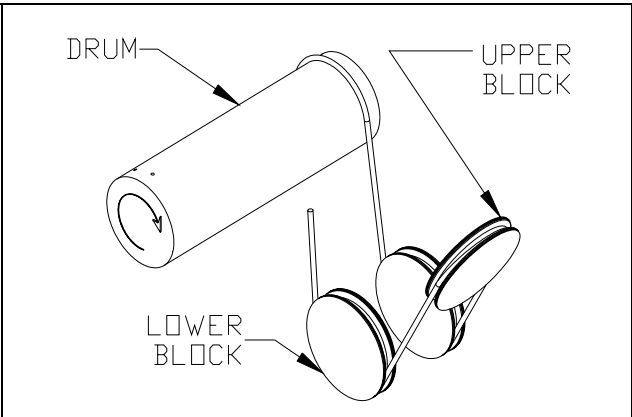

FIGURE 5-6. Reeving Diagram – 4 Part Single-Reeved. (Note: Arrow on Drum Indicates Direction of Drum when Lowering.)
- b) Before removing the old rope, refer to reeving diagram, Figure 5-6. To assist with re-reeving your hoist, refer to the reeving diagram and corresponding paragraph that describes the reeving procedure.
- (4) With outer lower block covers removed, thread the wire rope through the sheaves of the upper and lower block as shown in Figure 5-6.
- (5) Attach swaged rope end to the dead end anchor pin fastening cotter pins or retaining rings as required.
- (6) Replace the lower block sheave covers.